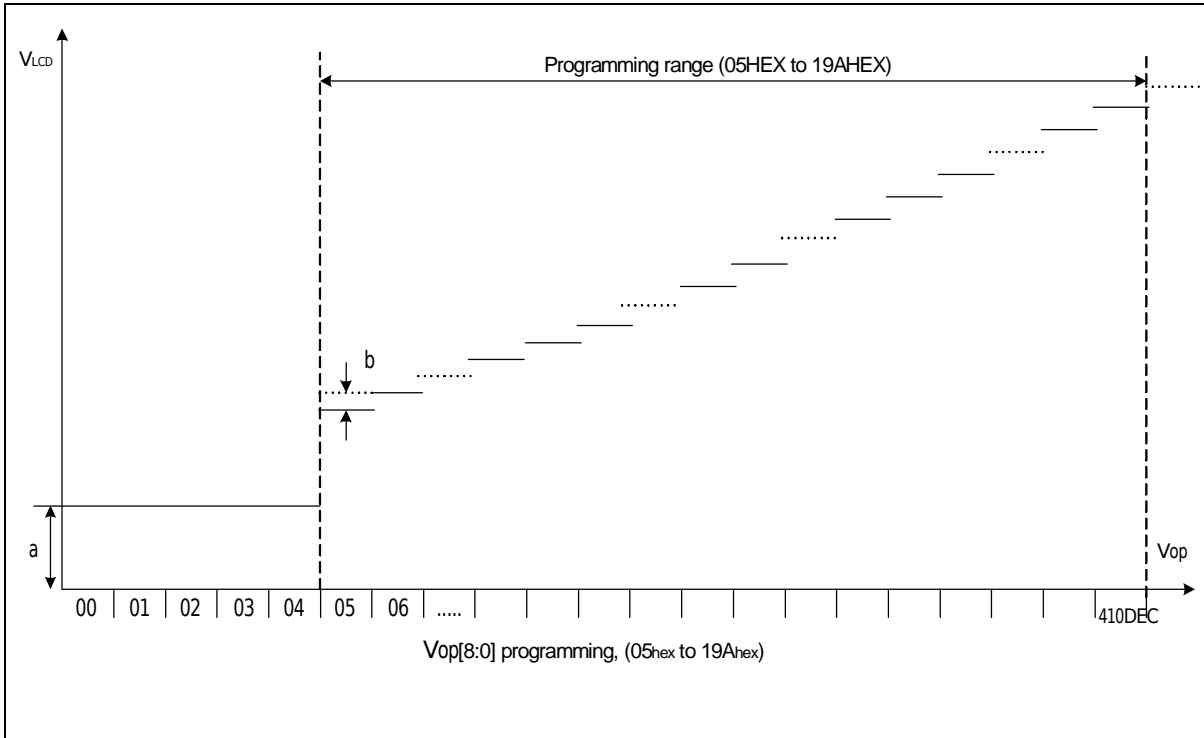

Fig. 7.10.2 VLCD programming range
The VOP[8:0] value must be in the VLCD programming range as given in Fig.7.10.2. Evaluating equation (1), values outside the programming range indicated in Fig.7.10.2 may result. Calculated values below VOP[8:0]=4 will be mapped to VOP[8:0]=4, resulting VOP values higher than VOP[8:0]=410 will be mapped to VOP=410.